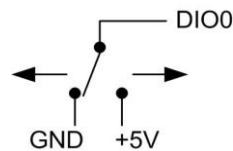

Figure 6. Schematic showing switch detection by digital channel DIO0
You can use the USB-1208HS digital I/O terminals to detect the state of any TTL-level input. Refer to the schematic shown in Figure 6. If you set the switch to the +5 V input, DIO0 reads *TRUE* (1). If you move the switch to GND, DIO0 reads *FALSE* (0).